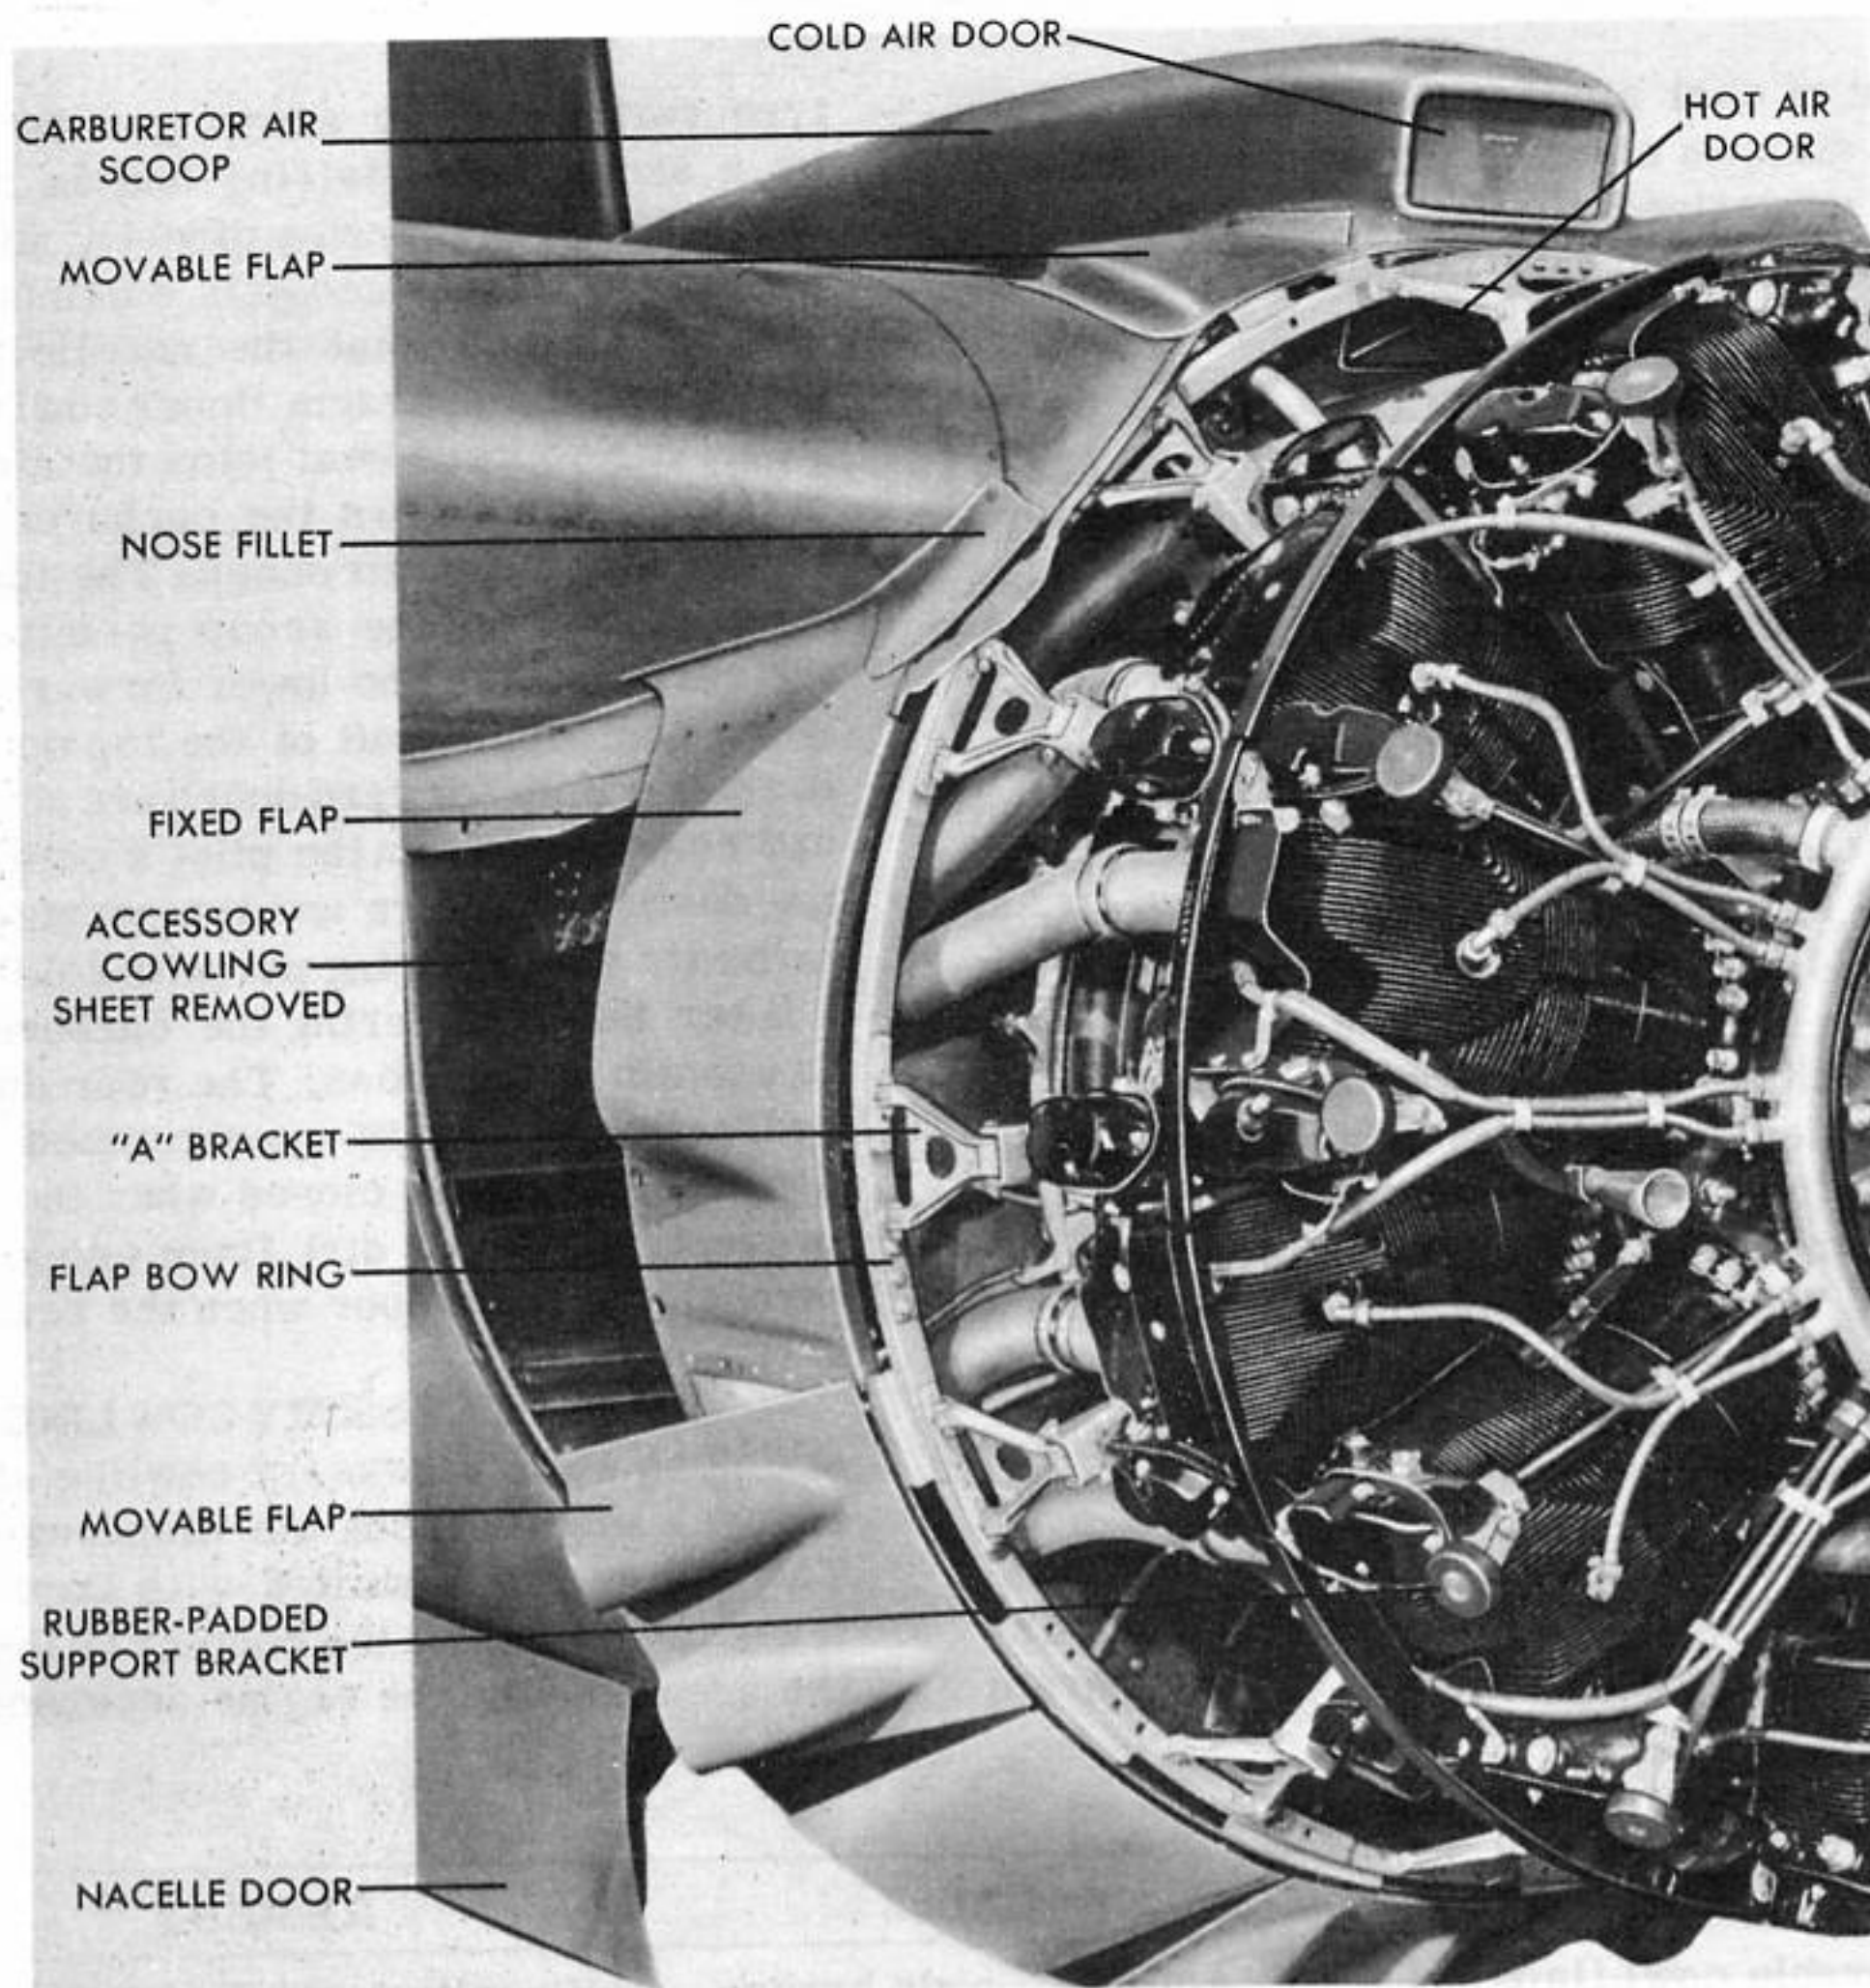

Figure 55 - ENGINE COWLING
(1) GENERAL. (See figure 55.) - Engine cowl- ing consists of a flap bow ring, lower movable flaps, upper movable flaps, fixed flaps and nose fillets, dia- phragm (inner cowl ring), antidrag ring, accessory cowl- ing sheets, dishpan cover (used on winterized air- planes only), and the carburetor air scoop. Main pur- poses of the cowl- ing are to provide a smooth contour covering the engine, which fair- s into the nacelle and wing, and to control air passing through the engine and into the carburetor. The cowl- ing is constructed for quick installation and removal, permitting access to all parts of the engine.
(2) **FLAP BOW RING.** (See figure 55.) - The flapbow ring is constructed of aluminum alloy, installed on the engine by 14 "A" brackets using 1/4-inch bolts and castellated nuts. The ring is electrically bonded by four flexible metal straps spaced equally around the ring.
(3) **MOVABLE COWL FLAPS.** (See figure 55.) The five lower movable flaps are sheet alclad, hinged to the flap bow ring by clevis bolts. The two upper movable flaps are sheet alclad and are hinged in a similar manner but must be cut and formed to fit each airplane. All seven movable flaps are actuated hydraulically and controlled by the pilot.
(4) **FIXED COWL FLAPS.** (See figure 55.) - There are two sheet alclad fixed flaps (one inboard, one outboard), which are a continuation of the lower movable flaps. The leading edge of each fixed flap is attached to the engine mount by rods. The trailing edge is secured to the diaphragm by screws. A nose fillet is attached to the upper end of each fixed flap and extends to the leading edge of the wing.
(8) CARBURETOR AIR SCOOP, RAM TYPE (USED ON AIRPLANE AF 42-53535 TO AF 42-53834 INCLUSIVE). (See figure 55.) - On airplanes AF 42-53535 to AF 42-53834 inclusive there is a sheet alclad filter housing mounted on top of the antidrag ring. There is an opening but no door on the forward face of the housing. In flight cold air enters this opening, passes up through the filter (a screen assembly) and through the top (cold air) door of the carburetor air scoop. The cold air door of the scoop is actuated by cables controlled from the pilot's compartment. Hot air enters through the lower opening of the air scoop. The hot air is not filtered. The hot air door is actuated by cables controlled from the pilot's compartment. The air scoop is constructed of aluminum alloy casting, sheet alclad and stainless steel and is mounted on top of the wing. The exterior of the scoop forms a continuous contour with the filter housing. A Neoprene seal joins the scoop to the carburetor. Four carburetor anti-icer lines are connected to the aft end of the scoop.
(9) CARBURETOR AIR SCOOP, NONRAM TYPE (USED ON AIRPLANES AF 42-53835 TO AF 42-54284 INCLUSIVE). (See figure 55.) - The nonram
(1) REMOVAL OF FLAP BOW RING. (See figure 55.)
(2) REMOVAL OF MOVABLE COWL FLAPS (five lower and two upper). (See figure 55.)
(3) REMOVAL OF FIXED COWL FLAPS. (See figure 55.)
(7) REMOVAL OF CARBURETOR AIR SCOOP (ram type). (See figure 55.)
(8) REMOVAL OF CARBURETOR AIR SCOOP (non-ram type). (See figure 55.)